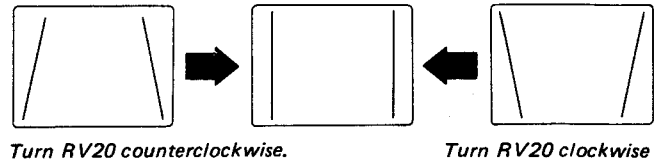

Fig. 5-160.
- (1) Make this monitor receive the crosshatch signal and show only V. lines.
- (2) Adjust RV20 on the DA board for the H. pin distortion tilt. (See Fig. 5-160.)